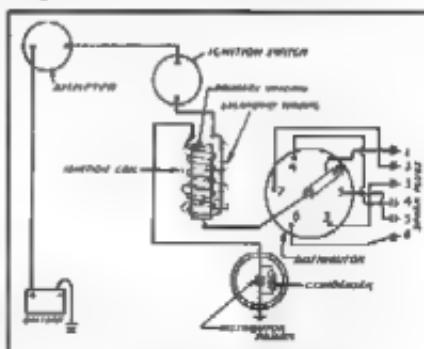

Fig. 35—Ignition Circuit
**Description.** The ignition system consists of the ignition switch to open and close the circuit, the coil to induce high voltage, the distributor to make and break the low tension circuit and distribute the high tension current to the correct spark plugs, the spark plugs to provide the spark in the combustion chamber and the necessary wiring (fig. 35). The battery is the source of current for the ignition system when starting the engine or operating at idling speed. The generator furnishes the ignition current at higher speeds.